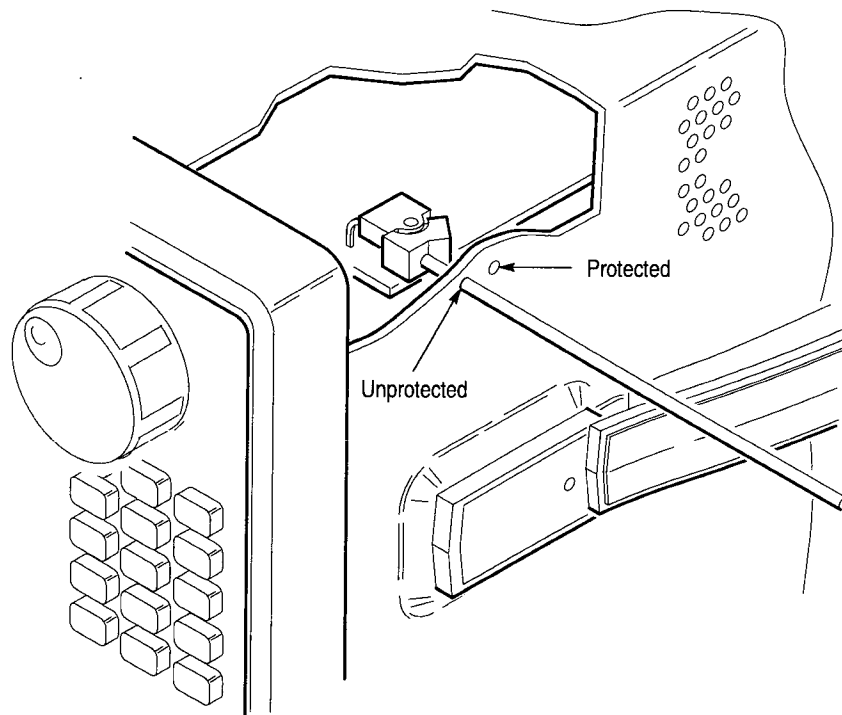

Figure 4: Accessing the Protection Switch
3. Insert a small nonconductive object (adjustment tool) into the front access hole located on the right side of the oscilloscope near the front panel. Push the nonconductive object inward to position the NVRAM protection rocker switch in the Unprotected (write-enable) position. See Figure 4.
6. When the program completes execution it should display (A)bort or (C)ontinue?
11. When the program completes execution it should display (A)ccept or (C)hange? Type: A and press **Return**.
14. Insert a small nonconductive object (adjustment tool) into the rear access hole located on the right side of the oscilloscope near the front panel. Push the nonconductive object inward to position the NVRAM protection rocker switch in the Protected (write-protect) position. See Figure 4.
15. At the (A)bort or (C)ontinue? prompt, type: C and press **Return**.